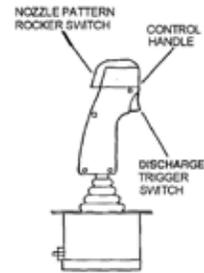

Figure 1-5. Joystick/Roof Turret Control.
- (1) Ensure DISCHARGE VALVE/PATTERN/RATE switch on the roof turret control panel (7, Figure - 4) is in the AIR position.
- (2) Set the RATE switch (1) to the desired discharge rate (750 or 1500 GPM).
- (3) On the fire truck control panel, place the PUMP switch in the ON position. This will activate the agent pump. Associated green indicator light will illuminate. If foam is required, place FOAM switch at the ON position. Associated indicator will illuminate.
- (4) Use the nozzle pattern rocker switch on the joystick control (Figure 1-5) to select the desired discharge pattern (either solid stream or dispersed).